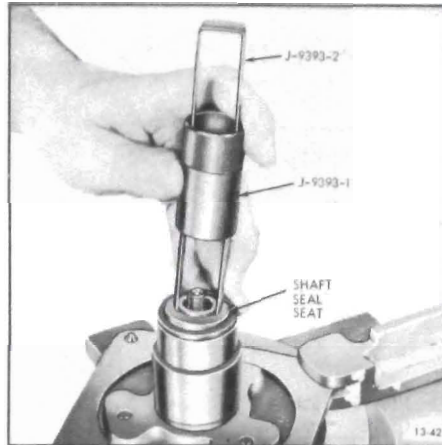

Figure 13-65 Removing or Installing Shaft Seal Seat
7. Remove the seal seat (see Figure 13-65) using Tool J-9393. Grasp flange of seal seat with the tool and pull straight out.